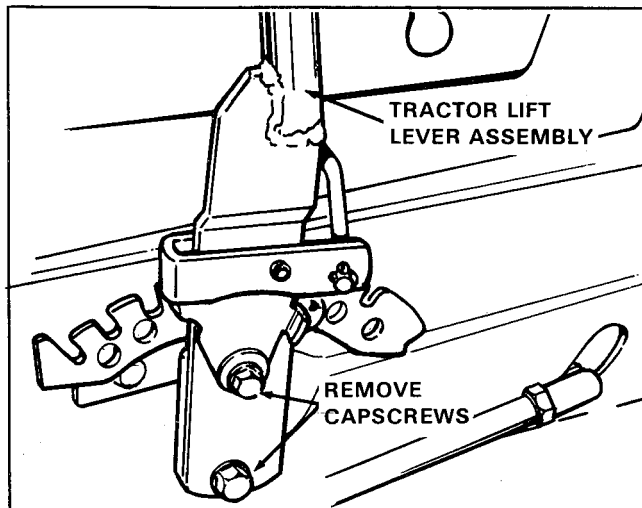

Figure 4.
13. Remove the tractor lift lever assembly. See figure 4.